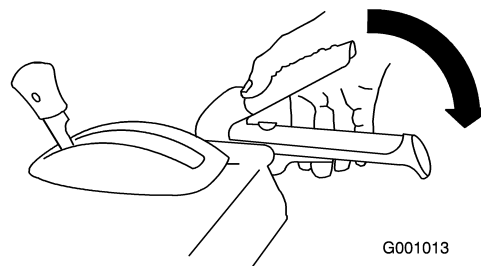

Figure 37
1. To engage the auger/ impeller drive, squeeze the right hand (auger/ impeller) lever to the handgrip (Figure 37).